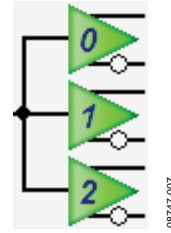
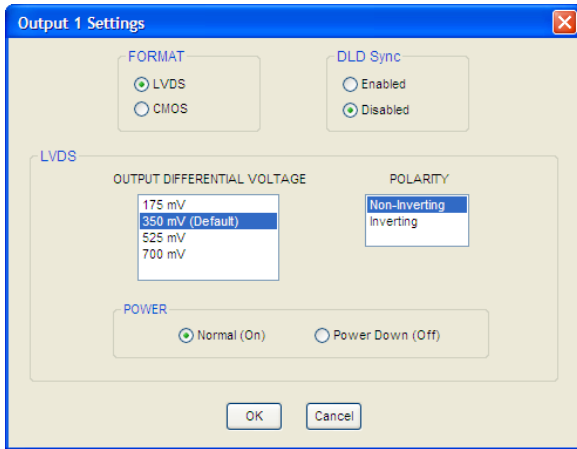
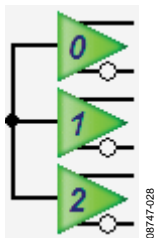

Figure 7. Driver Symbol
Figure 21. AD9522 Output Driver Window
Figure 22. Driver Symbol
11. Power down unused drivers by clicking the numbered triangular symbol on the right side of the main window (see Figure 7), and then clicking **Power Down (Off)** in the output driver window (see Figure 21). Unused drivers that
The output driver window shown in Figure 21 is accessed by clicking any of the numbered triangular output driver symbols on the right side of the main window (see Figure 22).